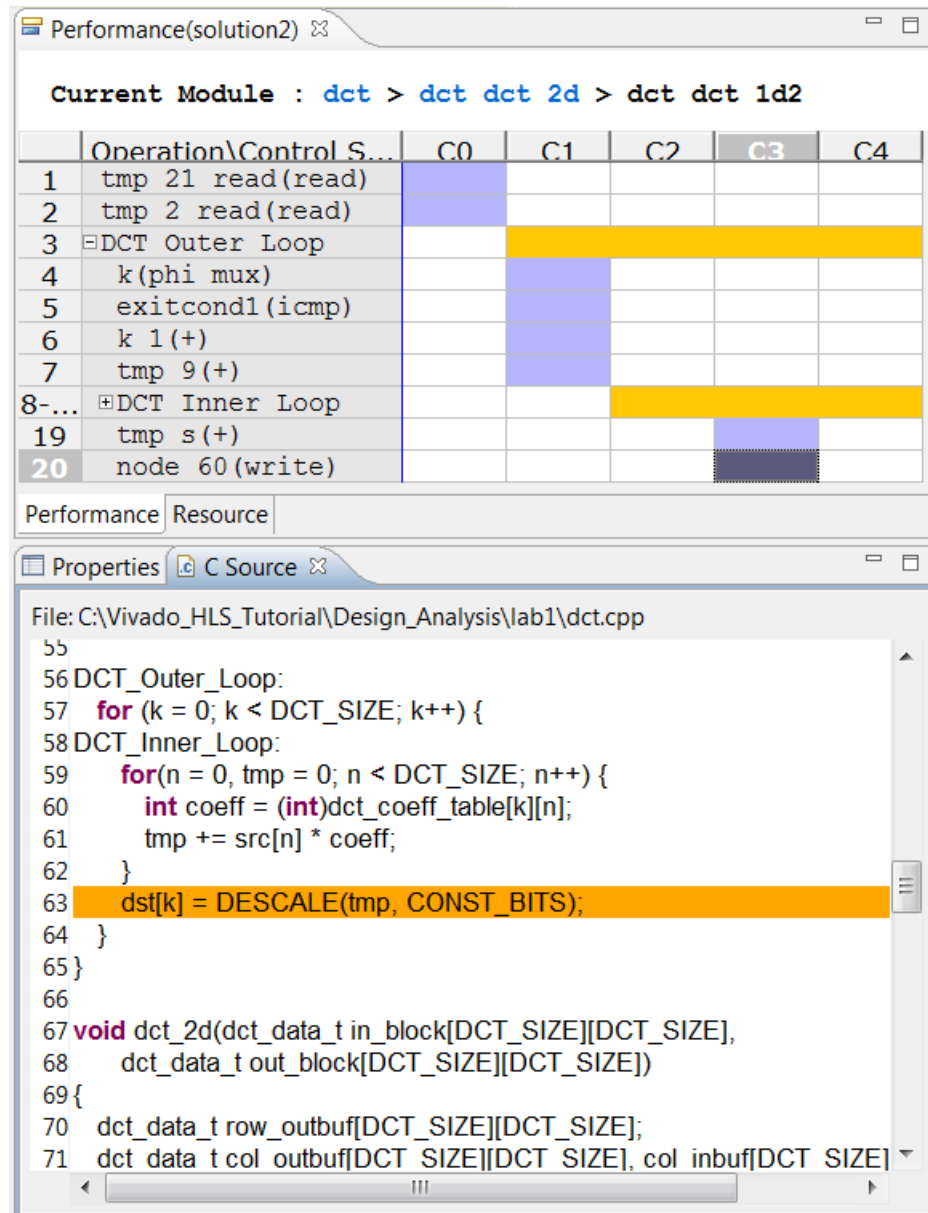

Figure 6-19: DCT Solution2 dct_1d Performance View
11. In the Performance view, click loops `DCT_Outer_Loop` and `DCT_Inner_Loop` to view the loop hierarchy (Figure 6-19).
Figure 6-19 shows that this loop was not flattened because additional operations outside of DCT_Inner_Loop, at the level of DCT_Outer_Loop, prevented loop flattening. One of the operations that prevented loop flattening is highlighted in Figure 6-19, below.